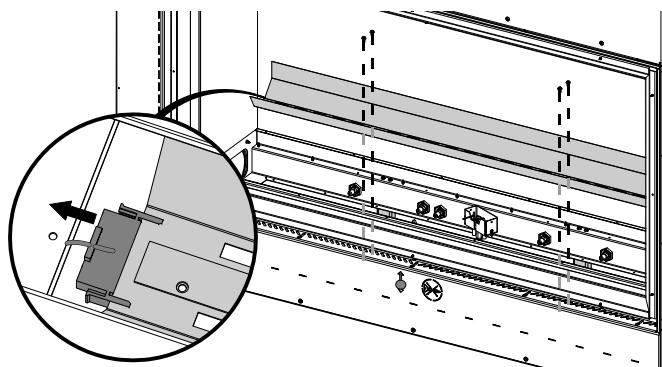

Fig. 3
- F. Disconnect the wires at both ends of the LED Sleigh Assembly (**Fig. 3**).
- G. Remove the LED Sleigh Assembly by removing the securing screws. Replace and reinstall components (**Fig. 3**).